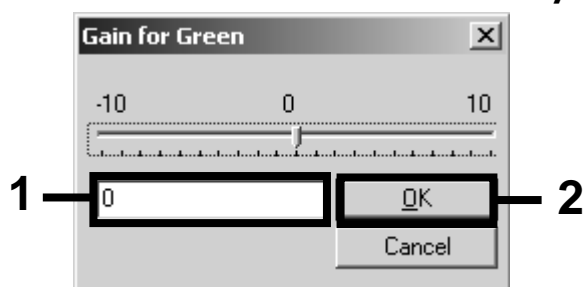

Figure 20. Manually entering the lowest gain values.
15. Select the lowest gain value for Cycling Green noted in step 12, and enter this value manually in the "Gain for Green" window (Figure 20). Select the lowest gain value for Cycling Yellow noted in step 12, and enter this value manually in the "Gain for Yellow" window.